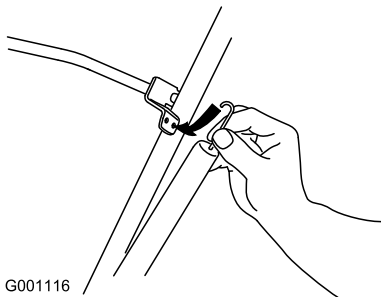

Figure 7
- Hook the end of the control cable spring into the bottom hole of the control bar (Figure 7).